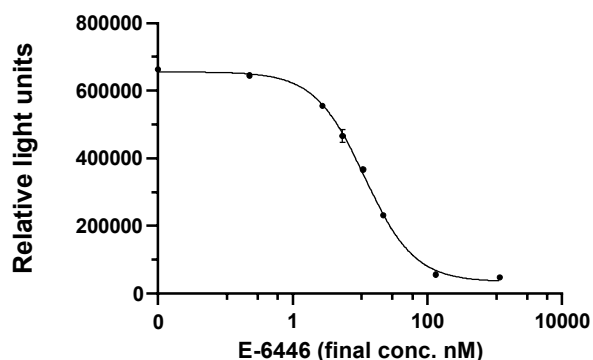

Figure 1. Example of TLR9 inhibitory curve.
The *iLite*[®] TLR9 Assay Ready Cells are engineered cells optimized to express Firefly luciferase under the control of an NF- κ B responsive promoter. Binding of DNA with unmethylated CpG motif to the Toll-like Receptor 9 results in activation of the NF- κ B responsive Firefly luciferase reporter gene construct. The *iLite*[®] TLR9 Assay Ready Cells also contain the Renilla Luciferase (RL) reporter gene, under the control of a constitutive promoter. The constitutive expression of RL allows normalization of CpG motif induced FL activity and renders assay results independent of variations in cell number or serum matrix effects. The luciferase signal can be measured in a luminometer following the addition and incubation of the luciferase substrate. The Firefly luciferase signal is proportional to the activity induced by CpG oligonucleotides in the sample. In the presence of inhibitory activity against TLR9, the functional activity of the present CpG oligodeoxynucleotides is reduced, resulting in a decreased stimulation of Firefly luciferase expression (Fig.1). Thus, the Firefly luciferase signal is inversely proportional to the amount of inhibitory activity against TLR9 in a sample. The *iLite*[®] TLR9 Assay Ready Cells can therefore be utilized for quantification of TLR9 inhibitor activity in test samples also when the samples contains human serum.